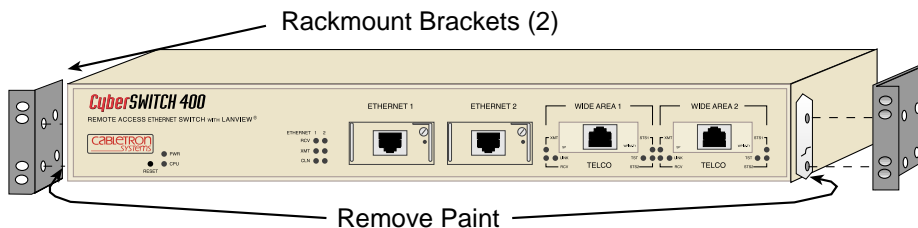

Figure 18 Installing the Rackmount Brackets
- Remove the paint from around the area near the mounting holes on the left and right side of the cover of the CSX400-DC. See **Figure 18**.
4. Locate the four 6-32 x 3/8-inch flathead cover replacement screws in the rackmount kit. Use these screws to attach the rackmount brackets to the CSX400-DC as shown in **Figure 18**.